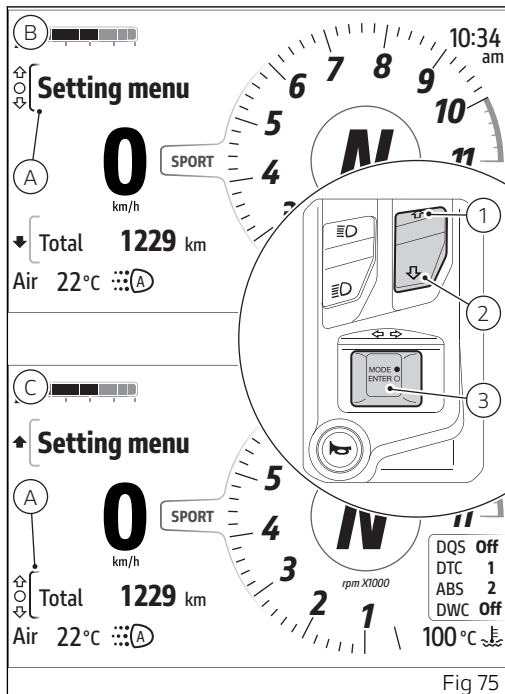

Fig 75
When one of the menus is selected, it is indicated with the active frame (A, Fig 75) and buttons (1), (2) and (3) are used for menu navigation and interaction. To toggle the selection between "Interactive menu" and "Info display" and vice versa:
- if "Interactive menu" is currently selected, long press and hold button (2) to move the selection to "Info display" (C, Fig 75);
- if "Info display" is currently selected, long press and hold button (1) to move the selection to "Interactive menu" (B, Fig 75).